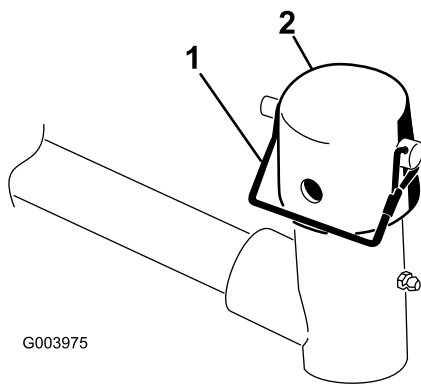

Figure 8
7. Remove the snapper pin and the cap from the lift arm pivot yoke (Figure 8).
11. Secure the cap and the carrier frame shaft to the lift arm yoke with the snapper pin. Use the slot if a steering cutting unit is desired or use the hole if the cutting unit is to be locked in position (Figure 8).